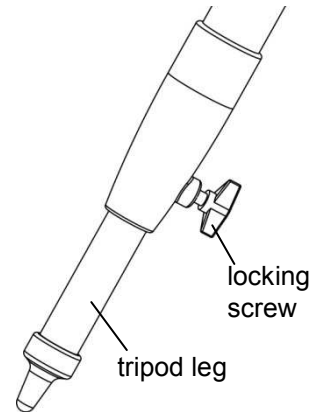

Fig 1
1.1 Setting Up the tripod (fig 1)